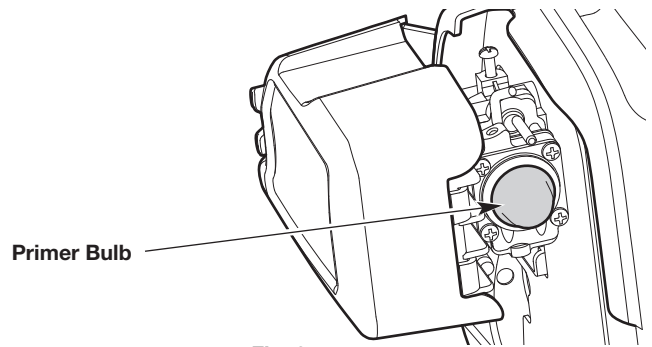

Fig. 8
1. Slowly press and release the primer bulb **10 times** (Fig. 8).